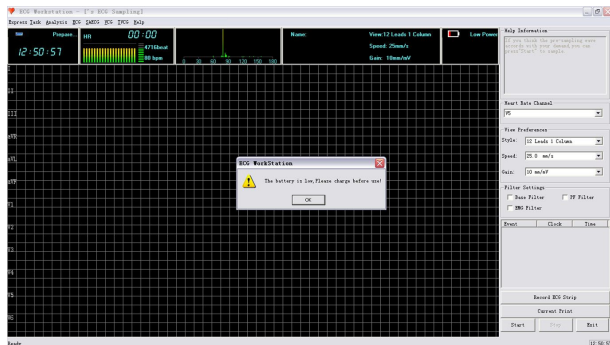
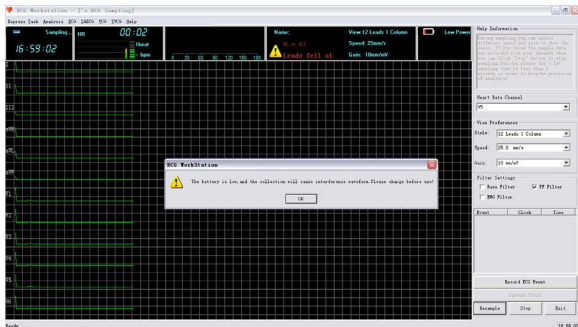
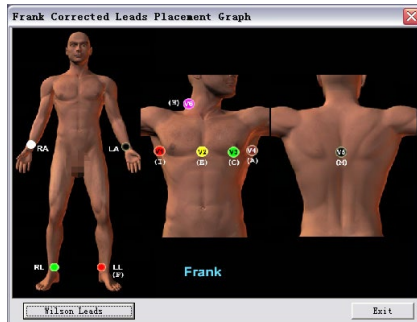
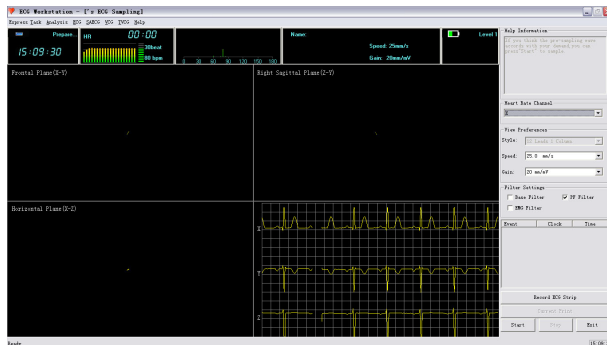

Figure 27
Figure 28
Figure 29
Figure 30
charge the device, as the collecting can't be continued in low battery. The device will prompt low battery during pre-collecting process, as shown in Figure 27, while during formal sampling process, the prompt interface is shown in Figure 28.
- ◆ If both "Wilson Type 12 Leads" and "Frank 3Leads" are selected, systems will pop up dialog (As **Figure 28**) after clicking "close" button in **Figure 29**.
Place the electrodes according to Figure 29, then click "Start" button to enter the interface shown as Figure 30.